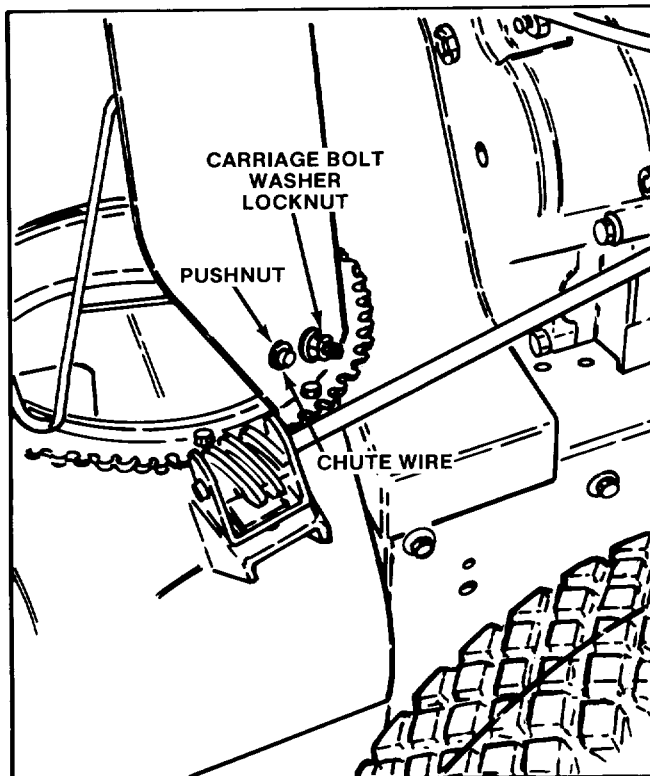

Figure 1
1. Remove carriage bolts, washers and locknuts securing chute to swivel plate. (Fig. 1)
2. Remove pushnuts securing chute wire to chute. (Fig. 1)